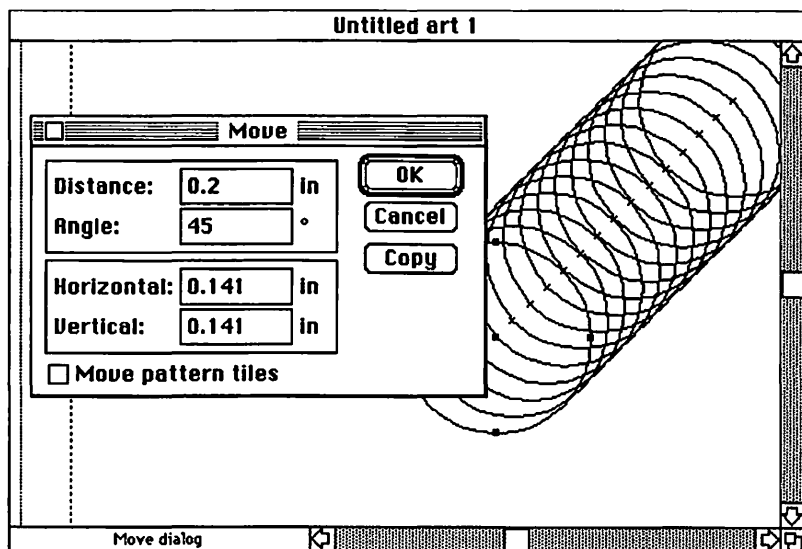

FIGURE 3-16 To start a step and repeat in Illustrator, enter the distance between steps and the direction in the top two text boxes of the Move dialog box.
3. In the Move dialog box which is now open, designate how far to offset the element in the Distance text box and in what direction in the Angle text box (Figure 3-16).